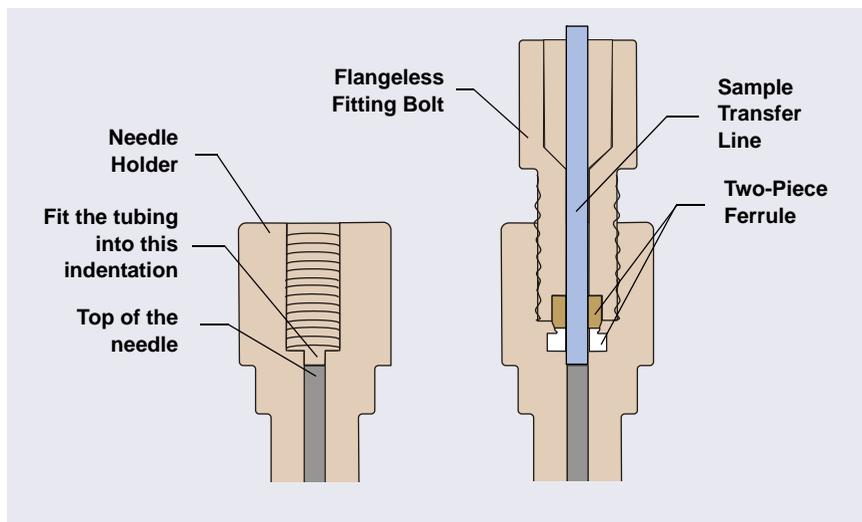

Figure 5-48. *Cross-Section of Needle Holder and Sample Transfer Line Fitting*
- b. There is a small indentation in the center of the needle holder (see Figure 5-48). The sample transfer line must be placed in the indentation before you tighten the fitting. When you slide the tubing into the needle holder, you should feel the tubing drop into the indentation. If not, move the tubing until it drops into the indentation.